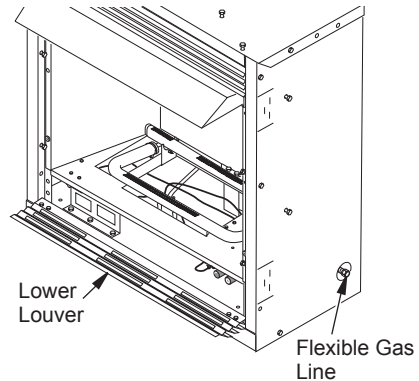

Figure 15 - Flexible Gas Line Location (Remote-Ready Unit Shown)
1. Open lower louver (see Figure 15).